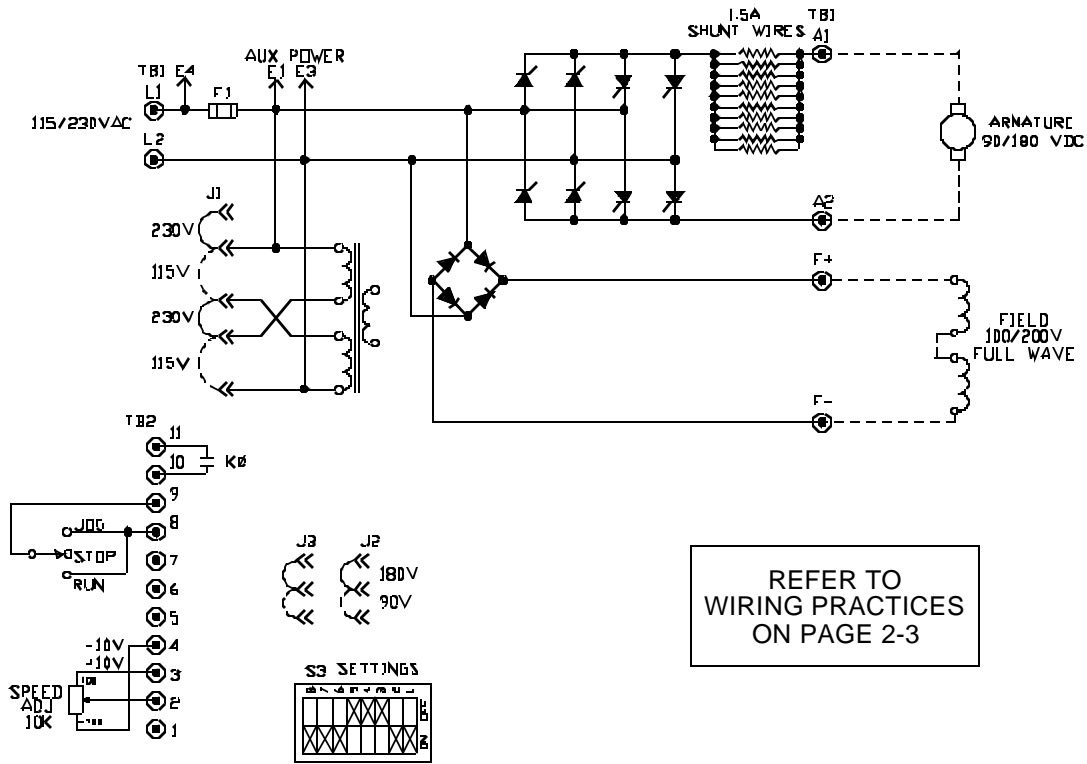
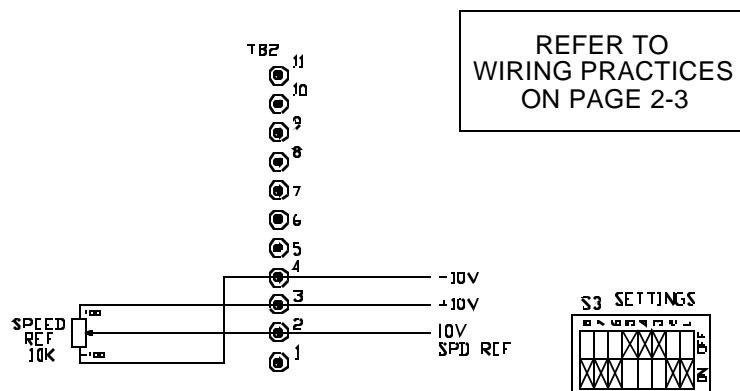

FIGURE 2-5. LOGIC CONNECTION DIAGRAM USING RUN/STOP/JOG SWITCH
FIGURE 2-12. SIGNAL CONNECTION DIAGRAM USING A MOTOR SPEED POTENTIOMETER FOR BIDIRECTIONAL CONTROL
5. If remote operator control wiring and/or signal wiring is required, connect the controller as shown in the appropriate connection diagram (Figures 2-5 through 2-18). Figures 2-5 through 2-11 show connections to user supplied operator controls and Figures 2-12 through 2-18 show signal connections.
4. Connect the controller as shown in the appropriate connection diagram (Figures 2-5 through 2-18). Figures 2-5 through 2-11 show connections to user supplied operator controls, and Figures 2-12 through 2-18 show signal connections.
4. If remote operator control wiring and/or signal wiring is required, connect the controller as shown in the appropriate connection diagram (Figures 2-5 through 2-18). Figures 2-5 through 2-11 show connections to user supplied operator controls, and Figures 2-12 through 2-18 show signal connections.